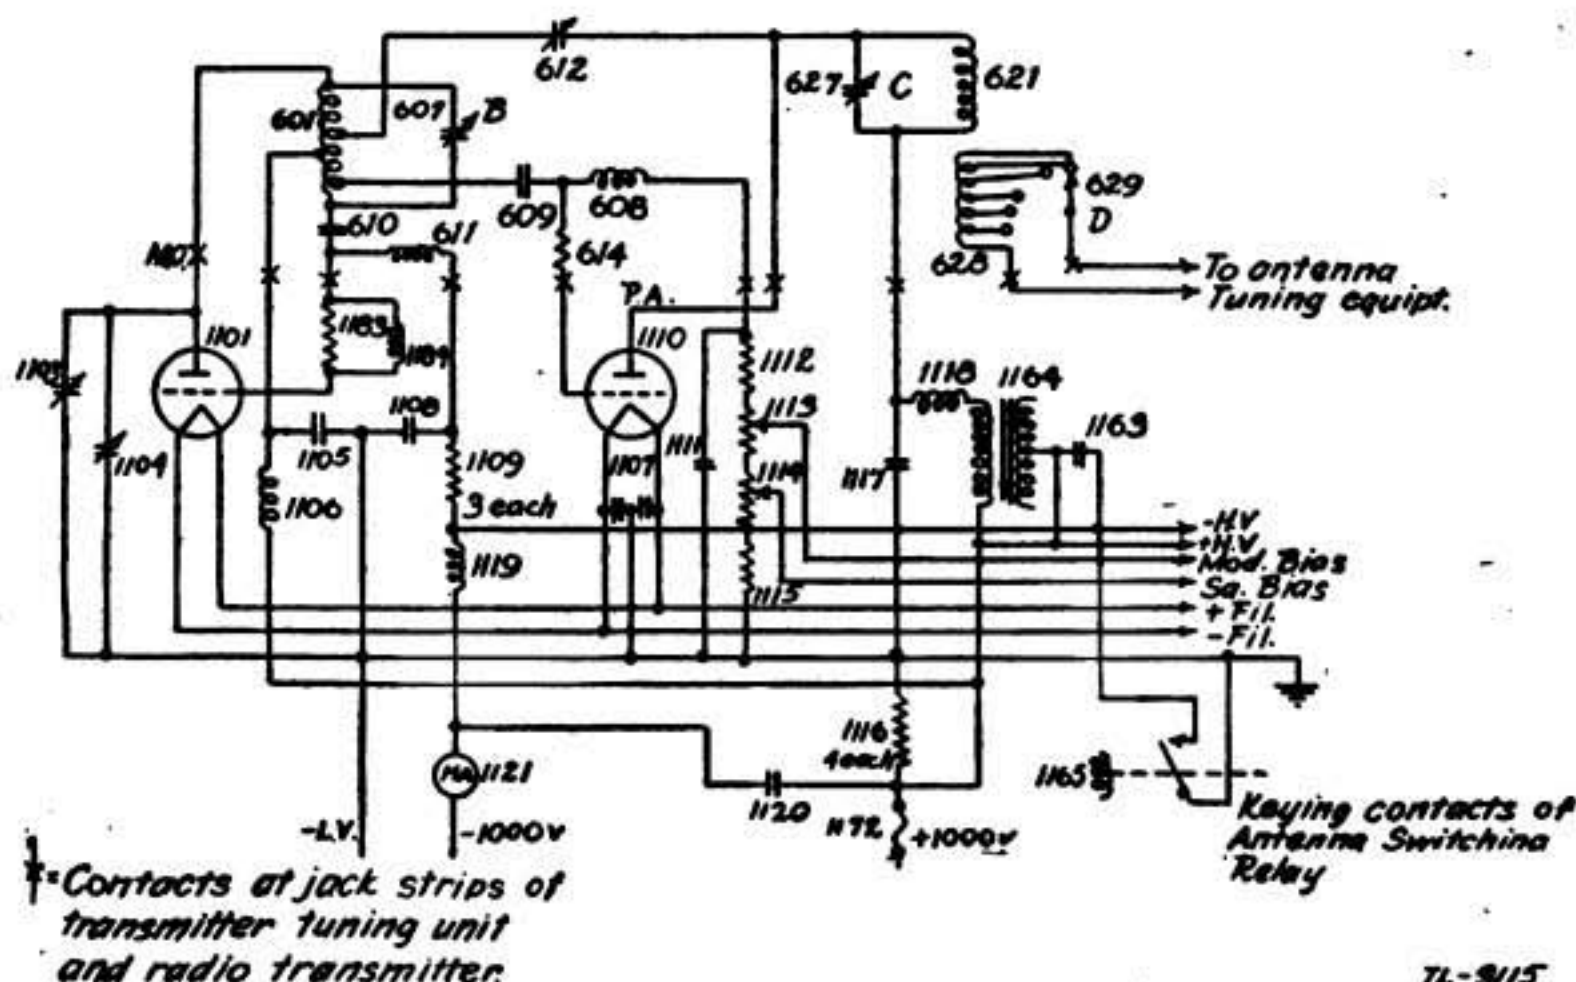

FIGURE 12.—Radio transmitter BC-191-(*), radio frequency and high voltage circuits—functional diagram.
27. Radio transmitters BC-191-(*) and transmitter tuning units TU-3-A or -B, TU-5 to TU-10-A or -B, TU-22-A or -B and TU-26-A or -B.—*a. Oscillator circuit.*—The master oscillator circuit is schematically illustrated in figure 12. The oscillatory
circuit by which the frequency of the transmitter is controlled is contained in the transmitter tuning unit being used. When the transmitter tuning unit TU-6-A or -B is employed and the BAND CHANGE SWITCH A is in position 2 (fig. 20), the oscillatory circuit comprises the tapped coil 601 and the variable capacitor 607. Moving the BAND CHANGE SWITCH A to position 1 places the fixed capacitors 603 and 613 in parallel with the variable capacitor 607, and enables this tuning unit to cover the lower ranges of its frequency band. Continuous adjustment of frequency is accomplished by means of the variable capacitor 607, control B. Controls, coil, and capacitors of the other transmitter tuning units (fig. 20) are arranged for similar operation on either one, three, or four bands, depending on the unit. In each tuning unit, both coils and capacitors are thermally compensated to reduce frequency variation due to normal changes in air temperature. Subsequent discussion of the master oscillator circuit is limited to the circuit shown in figure 12, which results when transmitter tuning unit TU-6-A or -B is used with BAND CHANGE SWITCH A on position 2. The radio frequency voltage across the lower half of the coil 601 provides the master oscillator grid excitation voltage. The coil is also tapped an equal number of turns on either side of the center tap. The grid excitation voltage for the power amplifier is furnished through capacitor 609. The master oscillator grid excitation voltage is obtained through capacitor 610, which also blocks the d-c plate voltage from the grid circuit. Resistor 1183 and choke 1184, in parallel, are connected in series with the grid of the master oscillator tube to prevent the generation of parasitic oscillations. The plate voltage for the master oscillator is fed to the tuning unit through radio frequency choke 1106, which, with capacitor 1105, prevents radio frequency current from flowing into the power supply. Resistors 1109 (three in series) function as the master oscillator grid leak which provides the required operating bias for the master oscillator tube from the rectified grid current. Part 1108 is a radio frequency bypass capacitor. Grid choke 611, in conjunction with resistors 1109, serves as the necessary d-c path from the grid to the filament, maintaining at the same time a high impedance to the radio frequency grid excitation voltage. Capacitor 1104 is the calibration reset by means of which the master oscillator tuning circuit can be adjusted to correspond to the calibration chart whenever the oscillator tube is changed. This capacitor is adjusted through a small port in the front panel to the right of TEST KEY. Capacitor 1103 is a sealed capacitor which provides the necessary thermal compensation for any frequency drift normally
b. Power amplifier circuit.—(1) The power amplifier circuit is schematically illustrated in conjunction with the master oscillator circuit in figure 12. The power amplifier plate tank circuit, by means of which the plate load impedance is adjusted, is contained in the transmitter tuning unit. When the transmitter tuning unit TU-6-A or -B is employed and BAND CHANGE SWITCH A is in position 2, the plate tank circuit comprises the coil 621 and variable capacitor 627. Moving BAND CHANGE SWITCH A to position 1 places
(2) Subsequent discussion of the power amplifier circuit is limited to the circuit shown in figure 12, which results when the transmitter tuning unit TU-6-A or -B is used with BAND CHANGE SWITCH A on position 2. The power amplifier grid receives excitation through capacitor 609 from the master oscillator tank coil. Capacitor 609 also keeps the master oscillator d-c plate voltage from the
f. Keying.—Keying of the transmitter (fig. 12) is controlled by means of resistor 1115, one end of which is connected to negative high voltage and to all grid circuit returns, and the other end to negative filament or ground potential. The keying contacts of relay 1165 are connected across this resistor. When the keying contacts are open, the voltage drop across 1115 is such that the grids of the tubes are negatively biased beyond plate current cut off, stopping oscillation. When these keying contacts are closed, resistor 1115 is shorted and normal grid biases on all tubes are reestablished. Operation of the keying contacts is accomplished by supplying power to the antenna switching relay 1165. (See fig. 17.) Power is supplied to this relay when the key, test key, or the microphone button switch is operated. Operation of the antenna switching relay performs the following additional functions:
- (1) Disconnects the receiving equipment from the antenna and grounds the receiver input circuit.
- (2) Connects the transmitter to the antenna circuit.
- (3) Keys the side tone circuit.